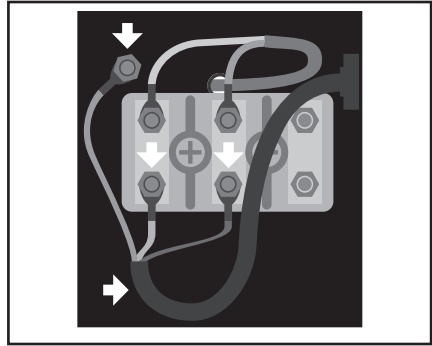

Fig. 19
6. Connect the control unit 3-wire power cable (Fig. 19).